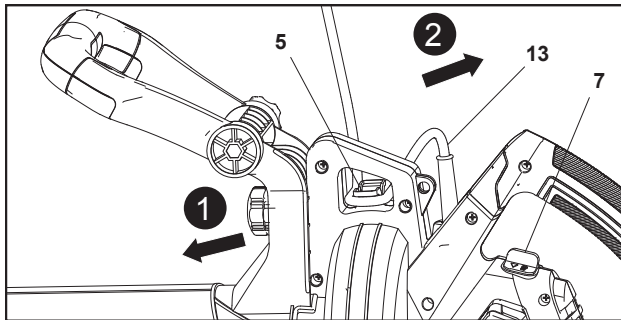

Fig. 10
1. Double the power cord (13) back, about 60 cm from the power guard and lead the loop on the cord retainer (5). Pull it over the cord retainer (5) and gently tug on the power cord (13) to ensure that it is firmly secured (Fig. 10, steps 1, 2).